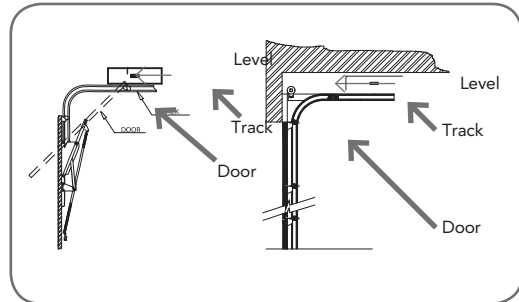

fig 14
- Using a level, transfer this height to the wall above the door (**Fig. 14**) and mark a line 60mm above it.